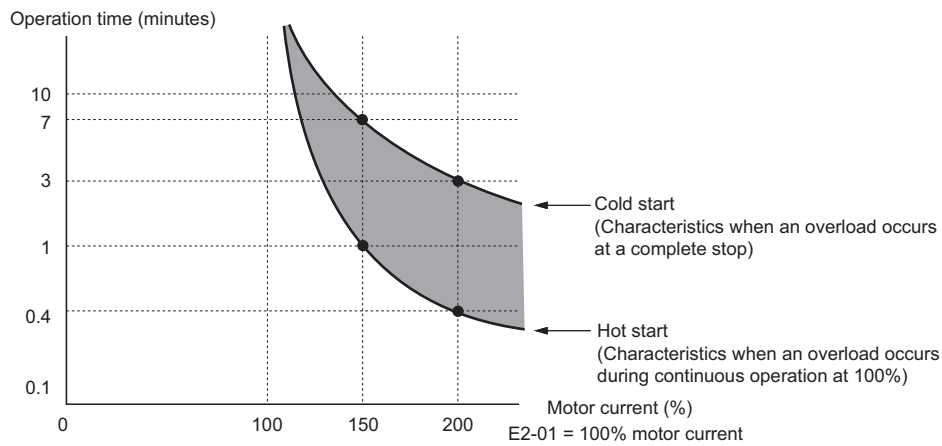

Figure 5.34 Protection Operation Time for General Purpose Motors at the Rated Output Frequency
**Figure 5.34** shows an example of the electrothermal protection operation time using a general-purpose motor operating at the value of E1-06, Motor Base Speed, with L1-02 set to one minute.